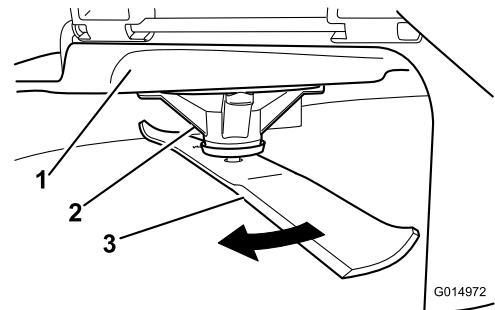

Figure 43
2. While wearing thickly padded gloves, or other adequate hand protection, slowly rotate the blade to be measured into a position that allows you to effectively measure the distance between the cutting edge and the level surface that the machine is on (Figure 43).